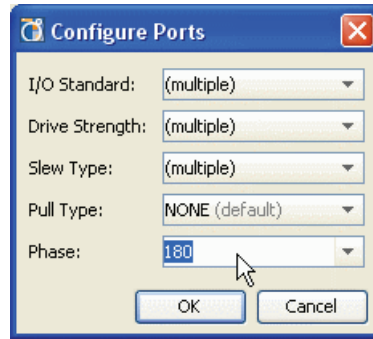

Figure 8-36: Configure Ports Dialog Box
2. In the I/O Ports view, Package Pins view, or SSN view, select **Configure I/O Ports**, as shown in Figure 8-36, page 283.